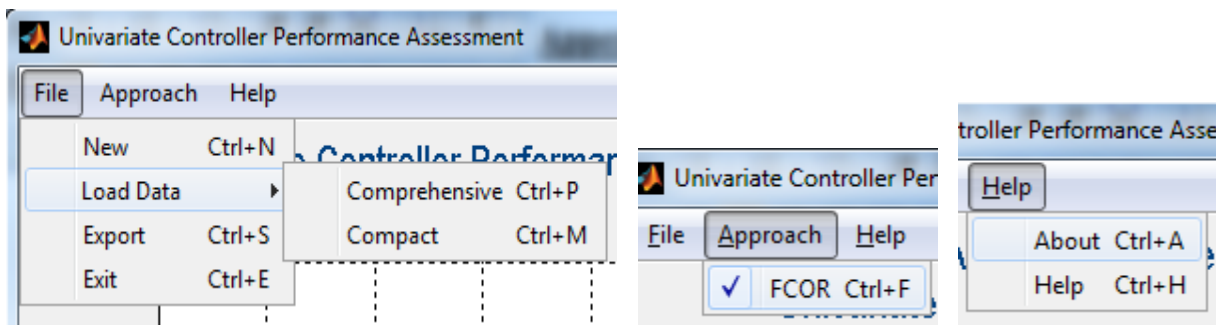

Figure 7: Close-up of the Main Menu: (a) on the left, (b) in the middle, and (c) on the right.
A close-up of the Main Menu section is given in Figure 7. The Main Menu consists of the following areas:
- 1) **File:** Clicking this menu brings up a drop-down list as show in Figure 7(a)
- 3) **Help:** Clicking this menu brings up a drop-down list as show in Figure 7(c) that includes the following options: